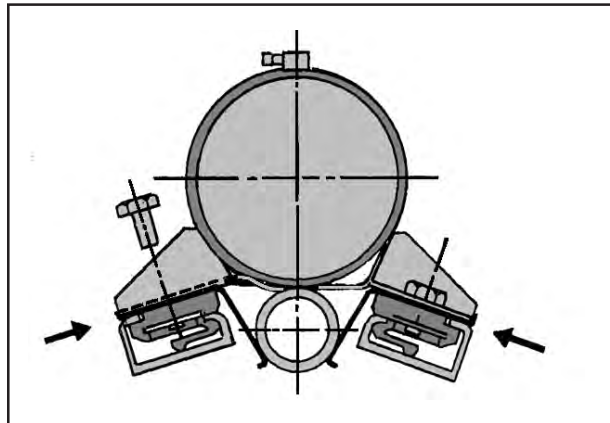

Figure 4-2 Locking Clamps
- Slightly loosen the metal clip attaching screws (see Figure 4-2). in order to facilitate the installation of the new tube. Once the tube mounted, tighten all the clips by pinching them against the glass tube.